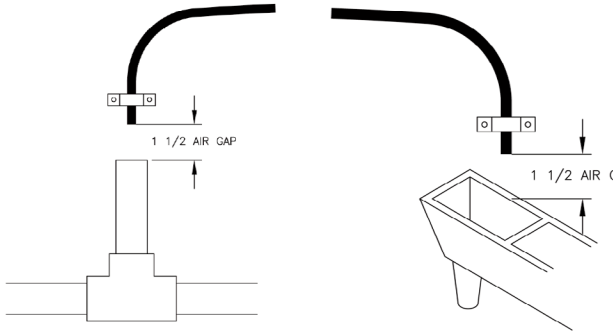

Figure 7: Also be sure drain line has an air gap.
2. If the drain line is a 5/8" outside diameter X 1/2" inside diameter flexible poly tube, slide the nut onto the poly tube, then place the poly tube insert into the end of the poly tube and tighten the nut on to the 3/4" drain line fitting. The nut is only designed for use with flexible poly tube. Use other nuts if attaching different materials. Run line to a drain. Making sure you have a 1 1/2" airgap. You may use a floor drain, standpipe or any open type drain (see Fig. 7 on page 15).